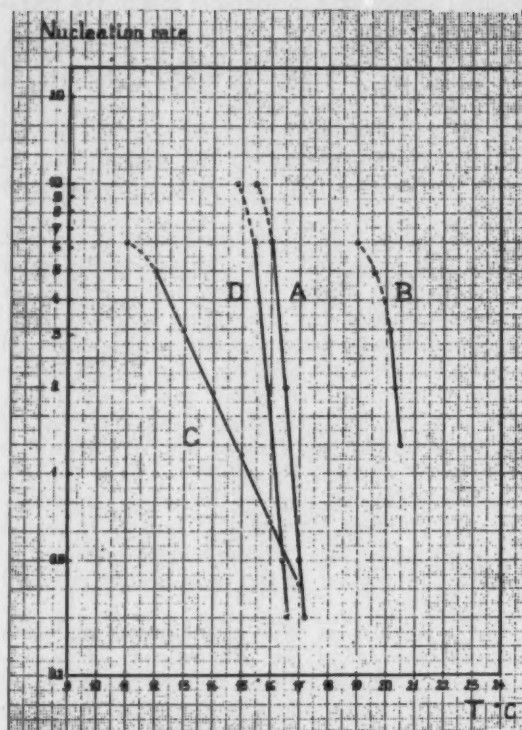

Fig. 19. γ -nuclei-formation velocities. (A) Cacao butter (B) Borneo tallow (C) Butterfat (D) Cacao butter with 15% butterfat.
function of the temperature. When plotted logarithmically, this becomes a straight line such as we found already for the β -form. Fig. 19 represents the lines for samples of cacao butter (A) Borneo tallow (B) butterfat (C) and a mixture of 85% cacao butter with 15% butterfat (D). The curvature of the upper part is probably due to the fact that the heat transfer rate is not infinite. The lower limit results from interference by β' -crystals.